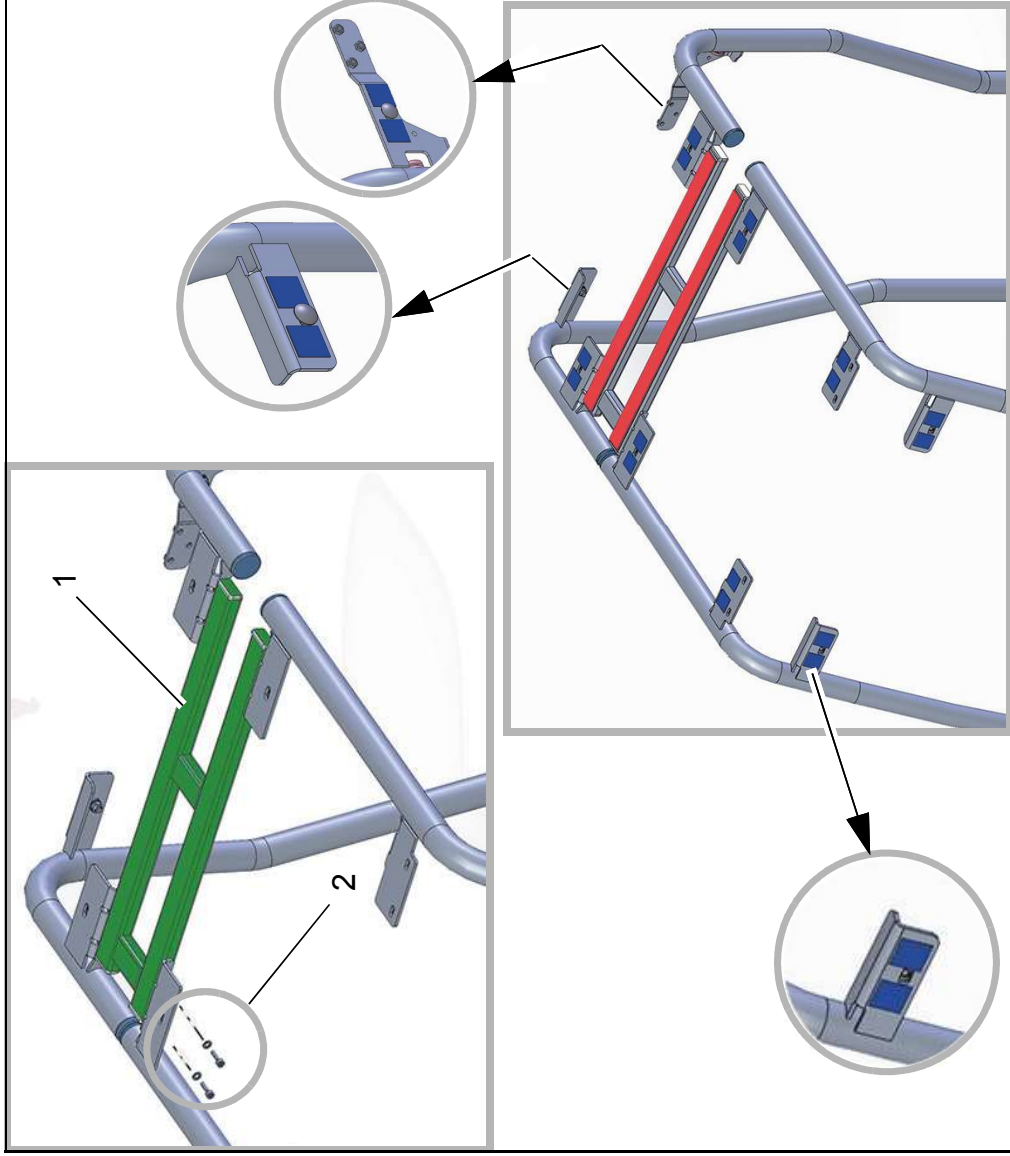

Fig. 4
1. Position the frame (Fig. 4/1) between the front and rear bars as per the illustration and attach to the bars with the eight M6x20 cylinder head screws (secure with Loctite type 243) and detent edge washers (Fig. 4/2).